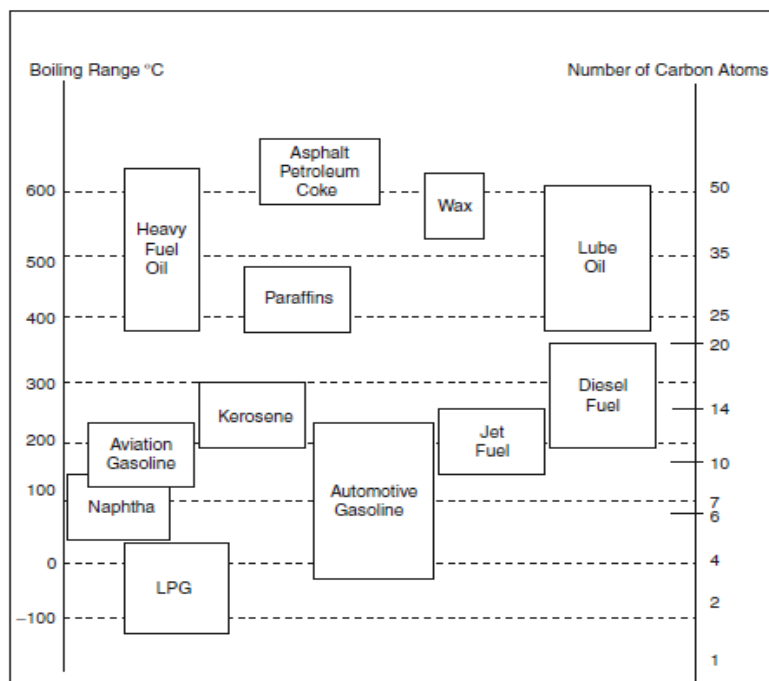

Figure1. Principal petroleum products with carbon numbers and boiling ranges
- There are specifications for over 2000 individual refinery products. Intermediate feed stocks can be routed to various units to produce different blend products depending on market demand. Figure 1 shows typical refinery products with their carbon atom contents and boiling ranges. The specifications of each product are discussed in detail in the coming Subsections.